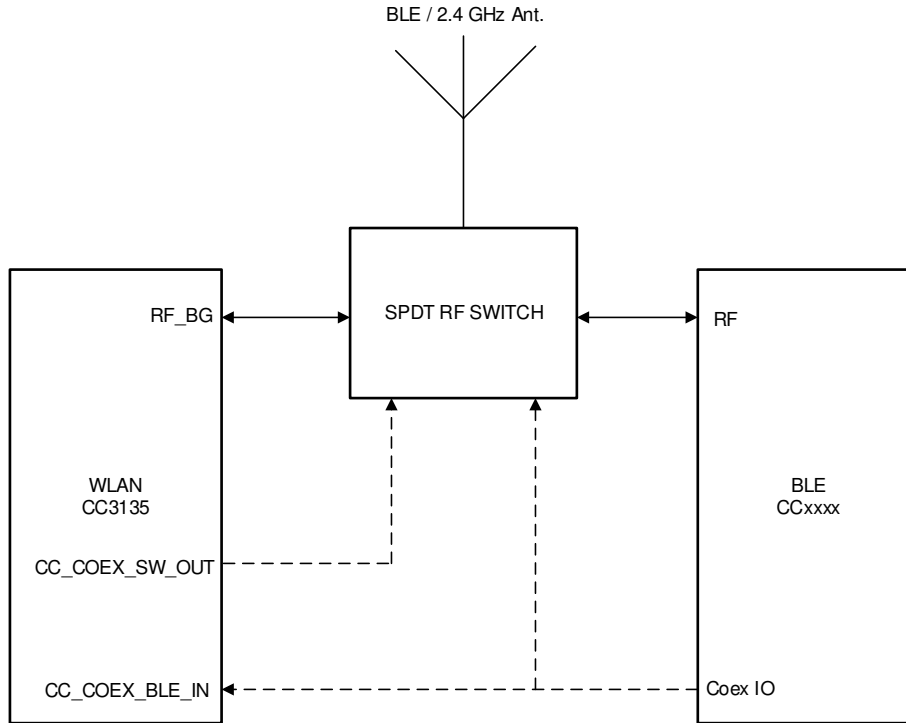

图 10-1. 2.4 GHz, Single-Antenna Coexistence Mode Block Diagram
- 2.4 GHz Wi-Fi band (see 图 10-1)